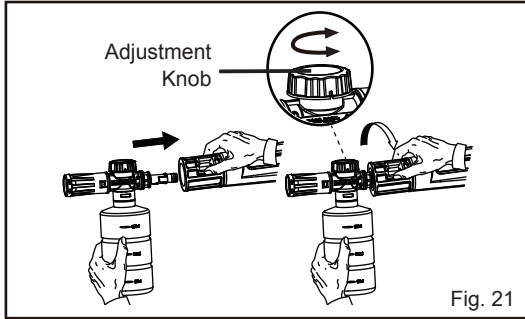

Fig. 21
- Assemble the detergent bottle to the spray gun handle. Align and insert the end of the detergent dispenser into the spray gun handle. Push and turn it clockwise until the two parts are completely joined (Fig. 21). After that push the lock button forward.
- Rotate the adjustment knob to control the detergent volume applied, if necessary (Fig. 21).